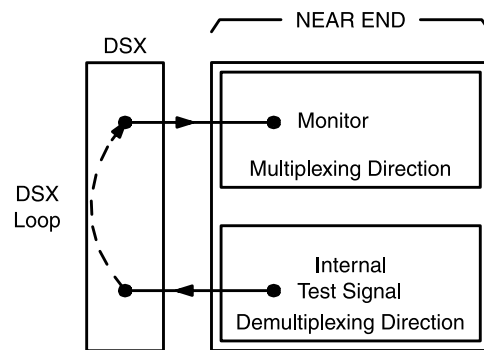

Figure 2 – Transmission Test of DS3 Signal in DEMUX Direction
10. See Figure 2. At the near-end DSX-3 cross-connection associated with the DDM-2000 being tested, connect a patch cord from the **OUT** jack to the **IN** jack for the DS3 channel to be tested.